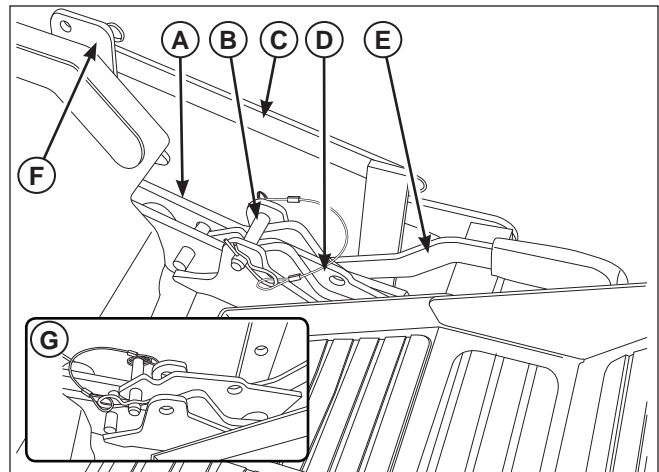

Figure 13. Attachment Lift Arms
4. Remove the pins with lanyards (**B, Figure 13**) from the attachment lift arms (**A**).
1. Disconnect the two (2) spring links (**C, Figure 13**) from the zero-turn rider connection point (**F**).
9. Pull the deck attachment lever (**E, Figure 13**) up and back.
1. Remove the pins with lanyards (**B, Figure 13**) from the rear holes of the attachment latches (**D**).
8. Reconnect the two (2) spring links (**C, Figure 13**) to the zero-turn rider.
2. Install the pins with lanyards into the attachment lift arms (**A, Figure 13**).